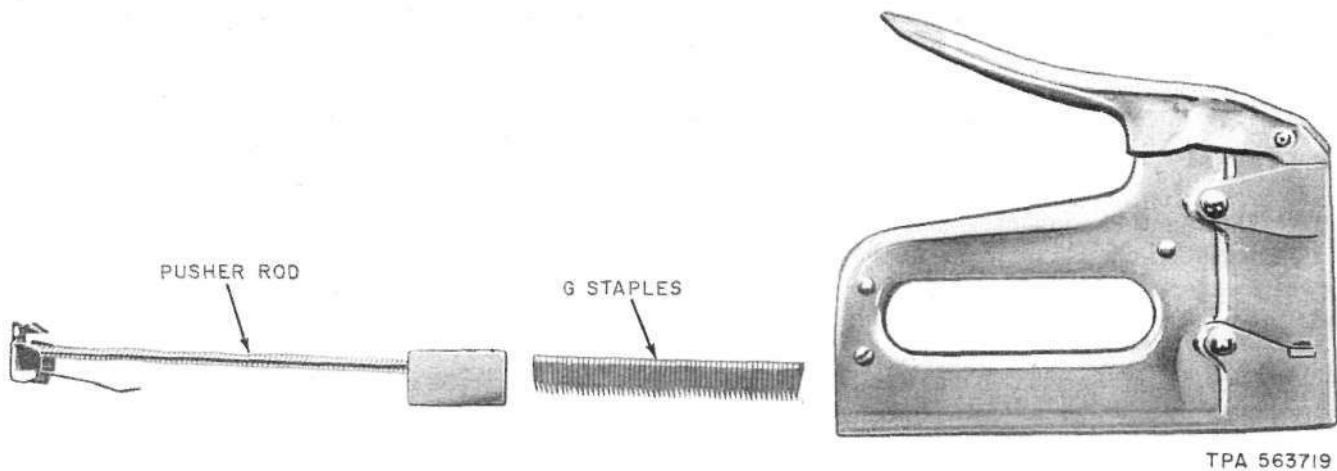

Fig. 3—Loading D-Stapler
**2.04** To load the stapler, lower the pusher rod lock by depressing it with the index finger and thumb and withdraw it from the frame (Fig. 3).